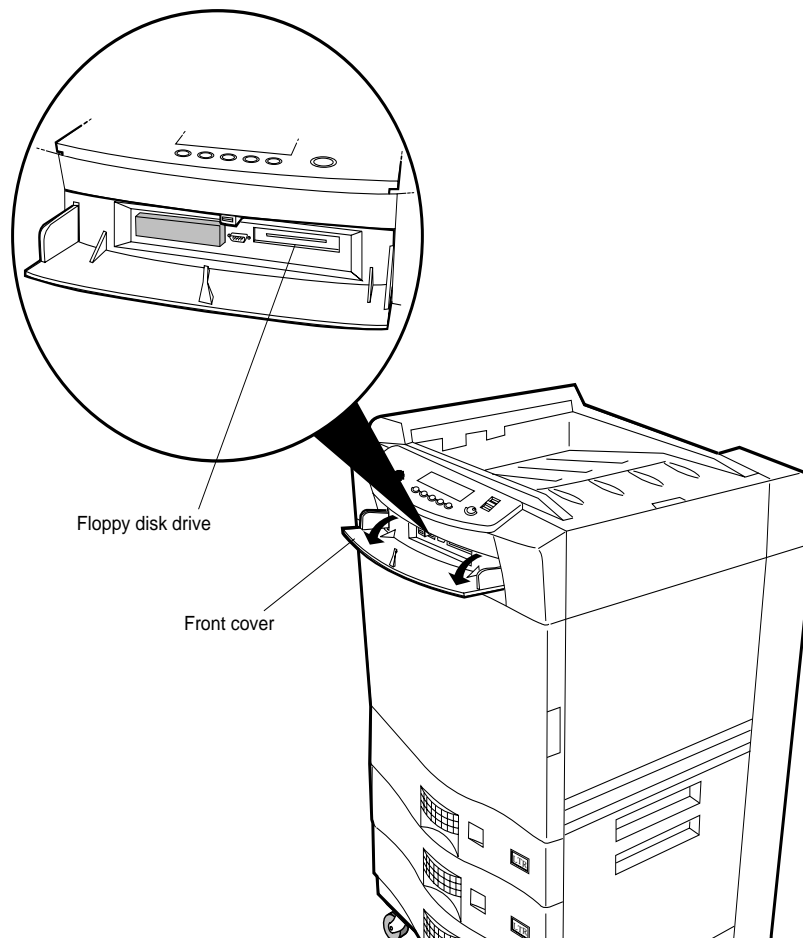

Figure 2-74 Floppy Disk Drive
1. Open the front cover and locate the floppy drive, as shown in Figure 2-74.